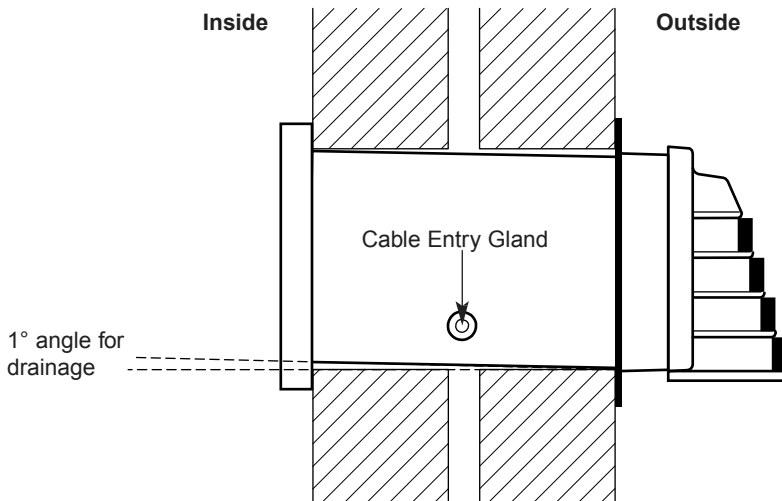

Fig. 4
5. Carefully cut the holes in the inner and outer brick courses to form a suitable aperture to receive the unit. Ensure that this is level, or angled down slightly to outside (Fig. 4).